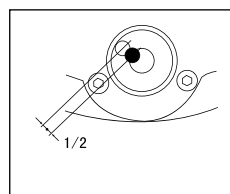

Figure 7
- Check the bubble level (10). Use the leveling screws (9) to position the bubble level (10) in the center. Turn the device 180 degrees. If the bubble level stays in the center, the device is calibrated.
- If the bubble level is not in the center, rotate the leveling screws (9) to move the bubble level. The bubble should be placed at least on the ½ between the center and the outer end of the circle (Fig. 7).